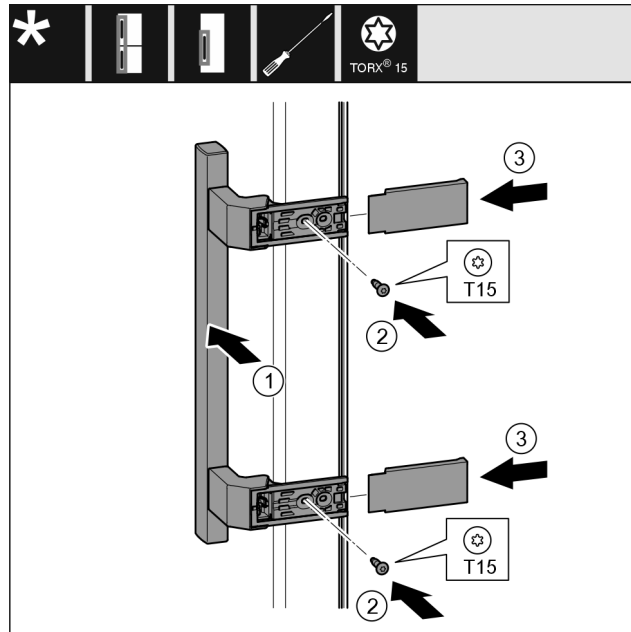

Fig. 9
- ▶ Attach the handle on the opposite side. Fig. 9 (1)
- ▶ Tighten the screws using a T15 screwdriver. Fig. 9 (2)
- ▶ Attach the covers on the sides and slide them on. Fig. 9 (3)